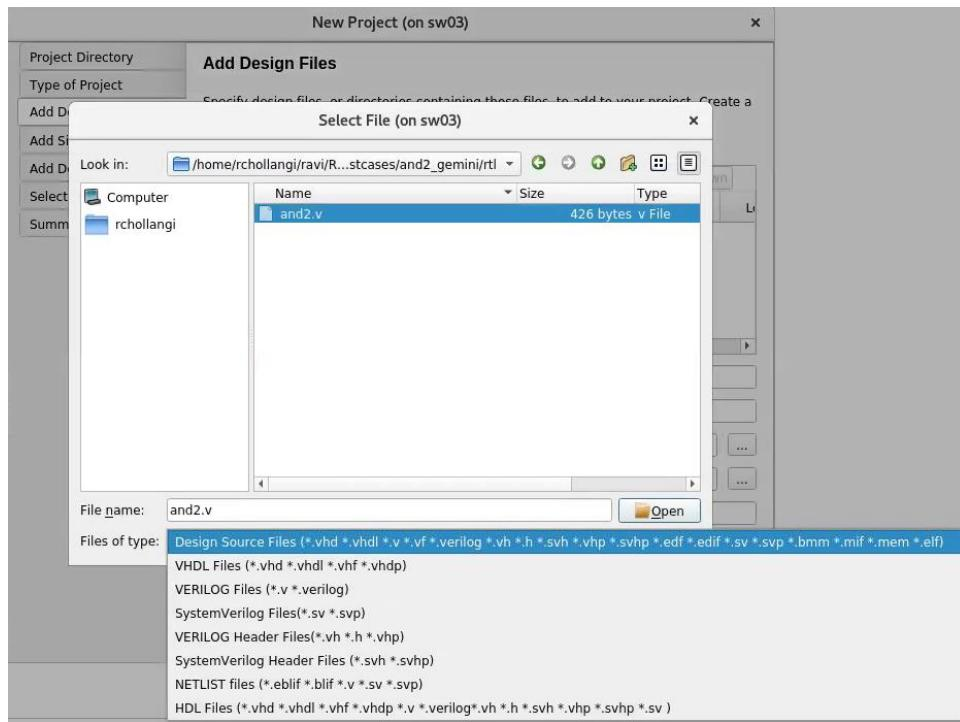

Figure 15. Add Individual Source Files
6. The user can also add individual source files using the "Add File" option as shown in **Figure 15**.